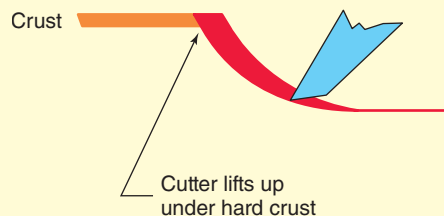

Figure 12-95 Conventional cutting is correct for work with a hard crust.
1. *Hard Crust* Cast iron often forms a hard thin outer surface, but it has a soft interior (Fig. 12-95). Here, by correctly choosing conventional cutting, the tooth starts under the crust until it breaks upward, pushing the crust away. In this case, climb milling would tend to dull the cutter more quickly because each tooth would start its cut in the hard crust.